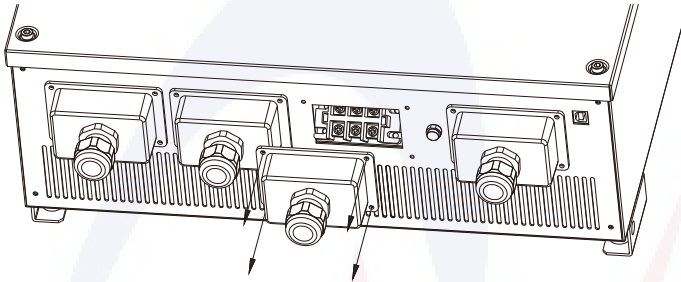
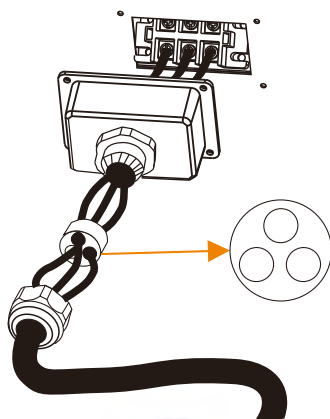
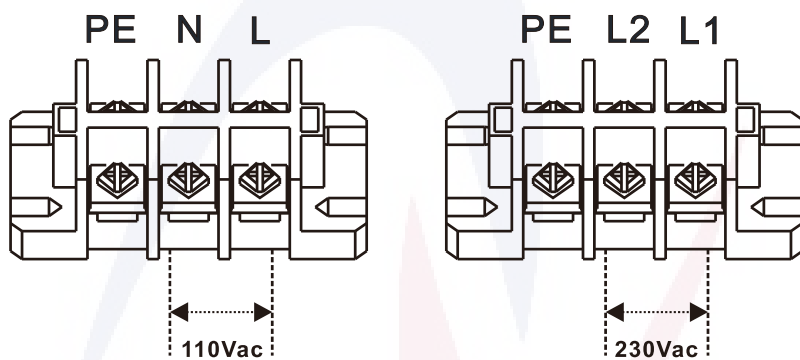

Figure 2
Figure 3
Figure 4
- Step 3: As shown in Figure 2, remove the cover of AC input. Follow the steps in Figure 3 to set the AC input wiring by using the recommended wire diameter. You can follow the instructions in Figure 4 to adopt different wiring methods for the desired input voltage.